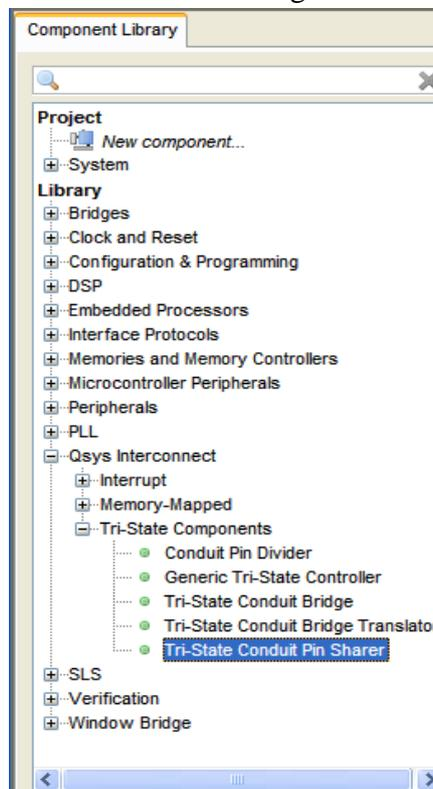

Figure 3-11 Add Tri-State Conduit Pin Sharer
- Choose **Library > Qsys interconnect > Tri-State Components > Tri-State Conduit Pin Sharer** to open the Tri-State Conduit Pin Sharer wizard. See Figure 3-11.